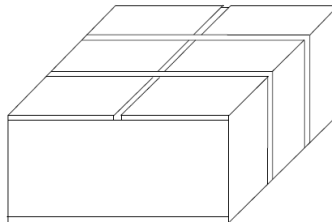

Figure 2-5 Place on platform smoothly
1) The packing case must be placed on the platform smoothly, as is shown in Figure 2-5.